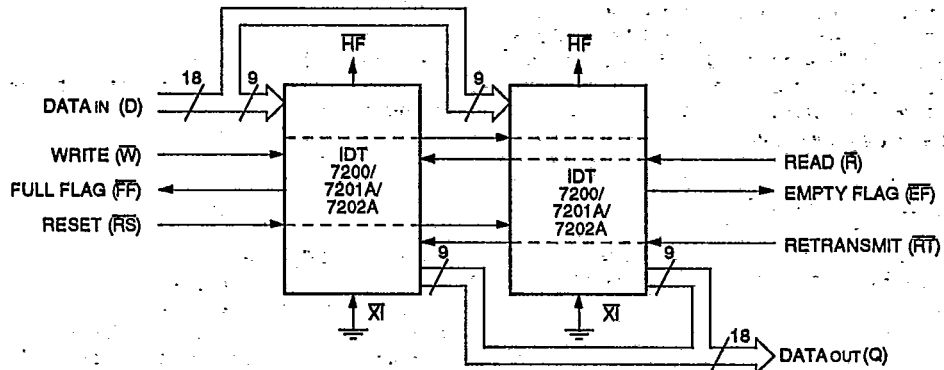

Figure 13. Block Diagram of 256/512/1024 x 18 FIFO Memory Used in Width Expansion Mode
Word width may be increased simply by connecting the corresponding input control signals of multiple devices. Status flags ($\overline{EF}$, $\overline{FF}$ and $\overline{HF}$) can be detected from any one device. Figure 13 demonstrates an 18-bit word width by using two IDT7200/7201A/7202As. Any word width can be attained by adding additional IDT7200/7201A/7202As (Figure 13).
2. For Flag detection see section on Width Expansion and Figure 13.